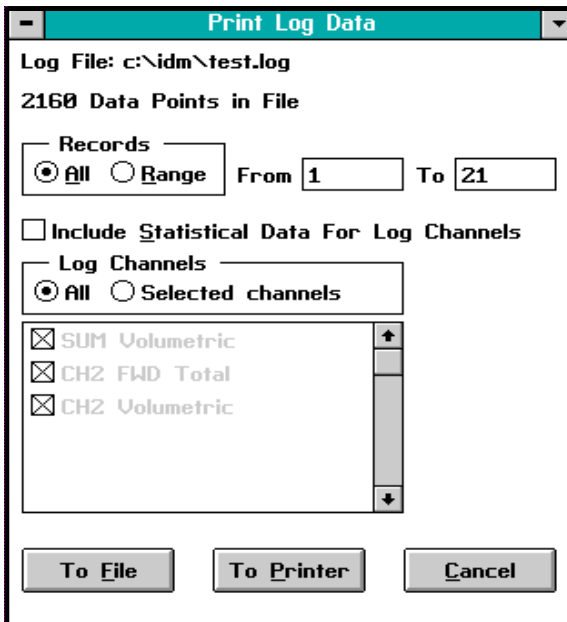

Figure 4-4: Log Record Selection
4. Select the desired log (TAB and ENTER). A window similar to the one shown in Figure 4-4 below appears.